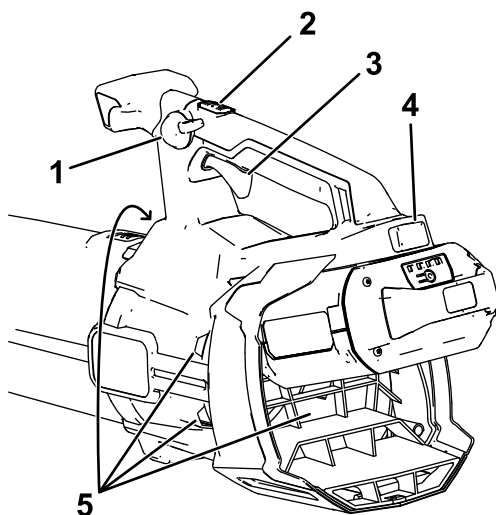

Figure 9
4. To start the blower, squeeze the variable-speed trigger (Figure 9).
Note: Engage the speed lock to keep the machine on without pressing the variable-speed trigger (Figure 9).
To adjust the air speed as you blow, use the variable-speed trigger (Figure 9).
To maintain the current air speed, engage the speed lock (Figure 9).
To achieve maximum performance, depress the variable-speed trigger, then press the turbo boost button to turn boost on (Figure 9).
To shut off the blower, disengage the speed lock (if in use) and release the variable-speed trigger (Figure 9).